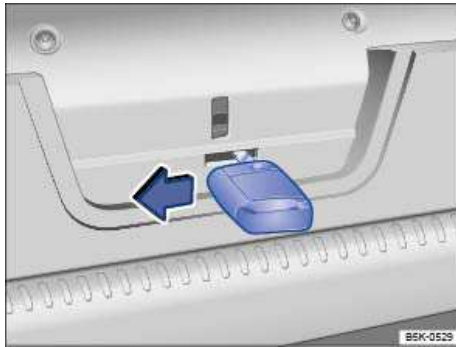

Fig. 164 Inside the luggage compartment: Opening the rear hatch.
- Insert the key into the slot on the rear hatch ⇒ fig. 164 and press the release lever in the direction of the arrow to unlock the rear hatch. At the same time, push the rear hatch out until it opens.